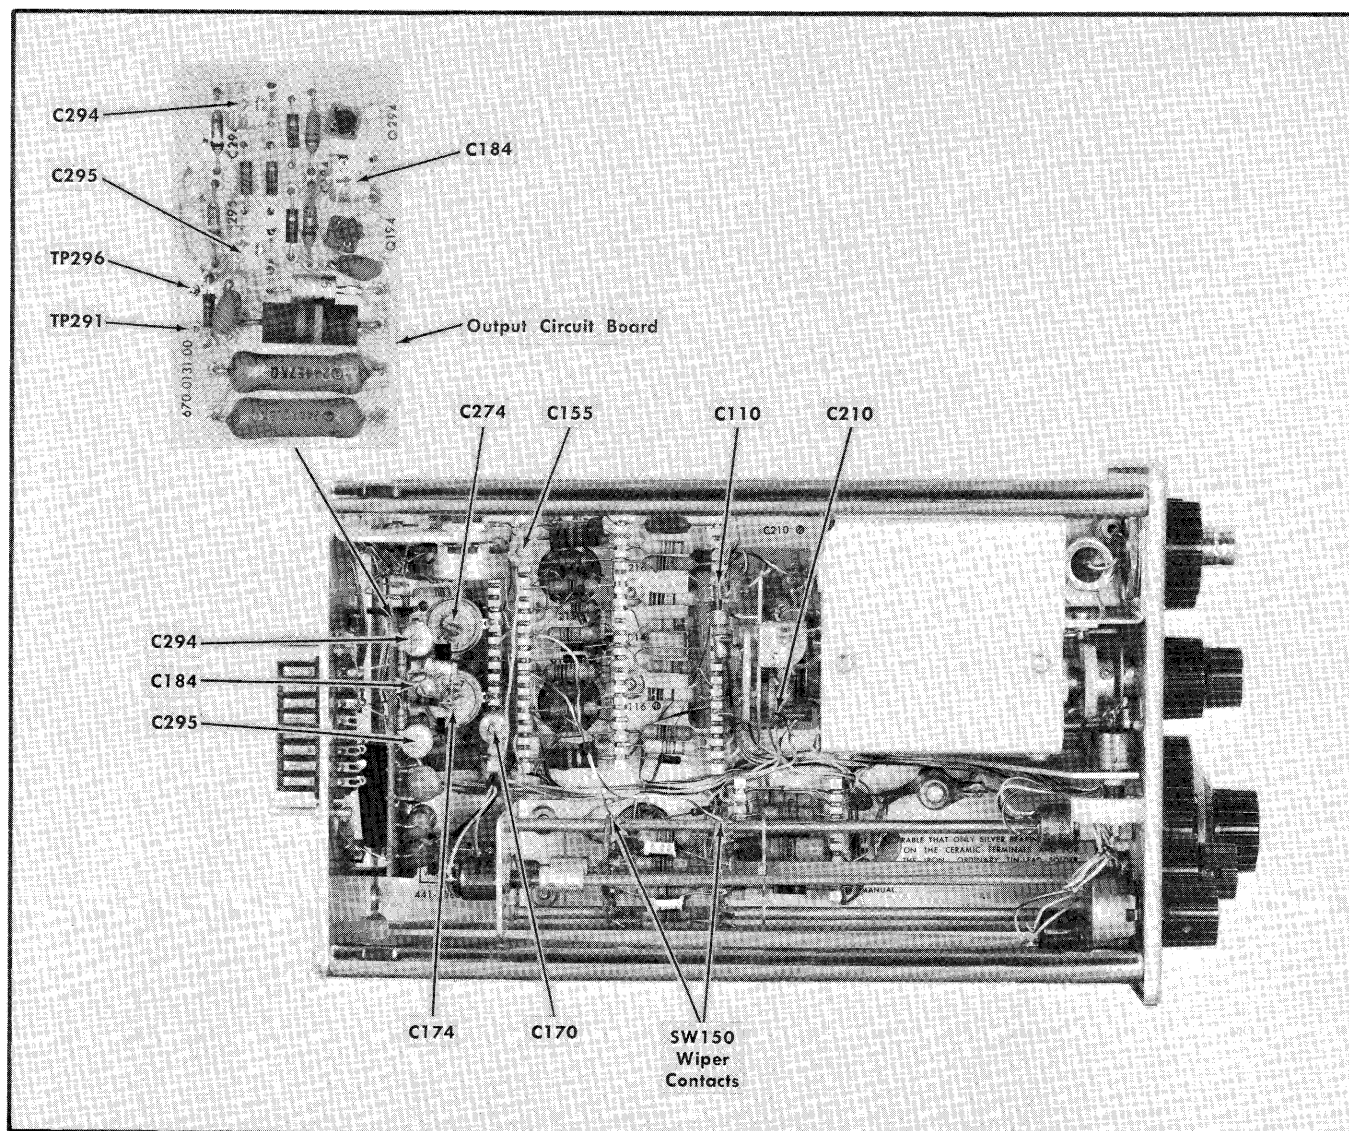

Fig. 5-2. Location of the calibration adjustments and test points (bottom view). Securing rod removed for the illustration.
a. Turn the oscilloscope power off. Connect a short jumper clip lead from one wiper contact of SW150 (MILLIVOLTS/CM switch) to the other (see Fig. 5-2). Turn oscilloscope power on and allow a few minutes warmup. (The protective circuit Q195 and Q196 creates an added
a. Set the VOM to its 8 volt or higher DC range, connect the common lead to TP296; connect the positive lead to TP291 (see Fig. 5-2).